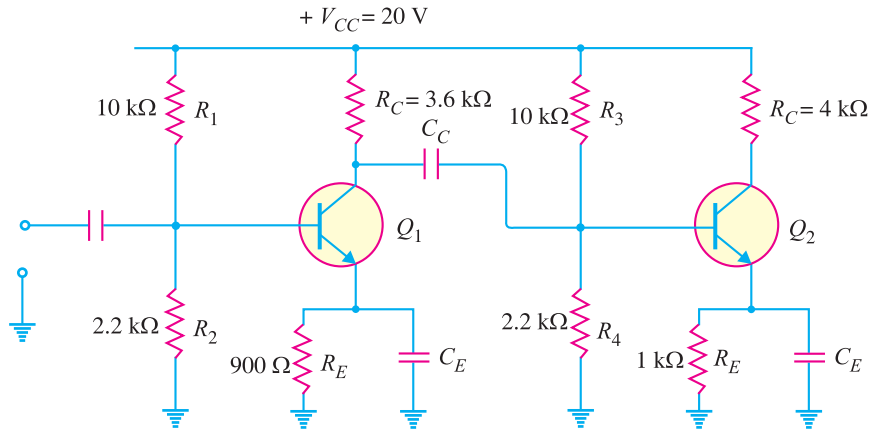

Fig. 11.12
**Example 11.14.** Fig. 11.12 shows a 2-stage RC coupled amplifier. What is the biasing potential for the second stage? If the coupling capacitor  $C_C$  is replaced by a wire, what would happen to the circuit?
**Solution.** Referring to Fig. 11.12, we have,